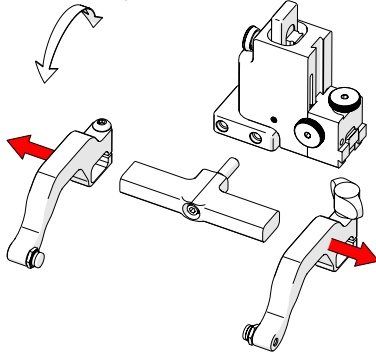

Fig. 57 - Remove probe holder arms
3. Loosen the arm clamp screw and the probe holder arm adjustment knob allowing the removal of the probe holder arms (Fig. 57).